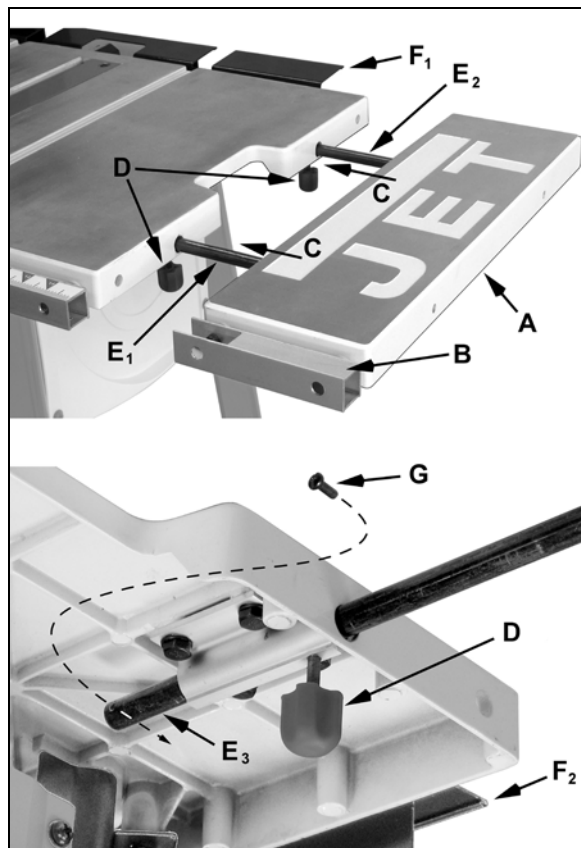

Figure 15
*Models BTC, LSA and LSB – the right extension wing looks like A in Figure 15*
Referring to Figure 15: